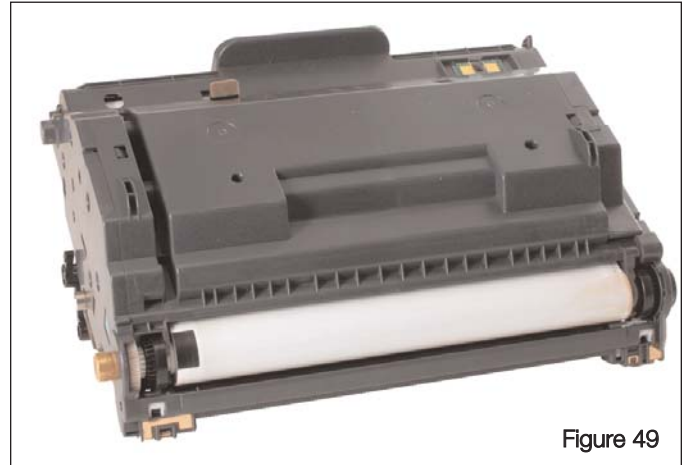

Figure 49
1. Place the Drum Unit as shown in Figure 49 with the transfer belt at the bottom.